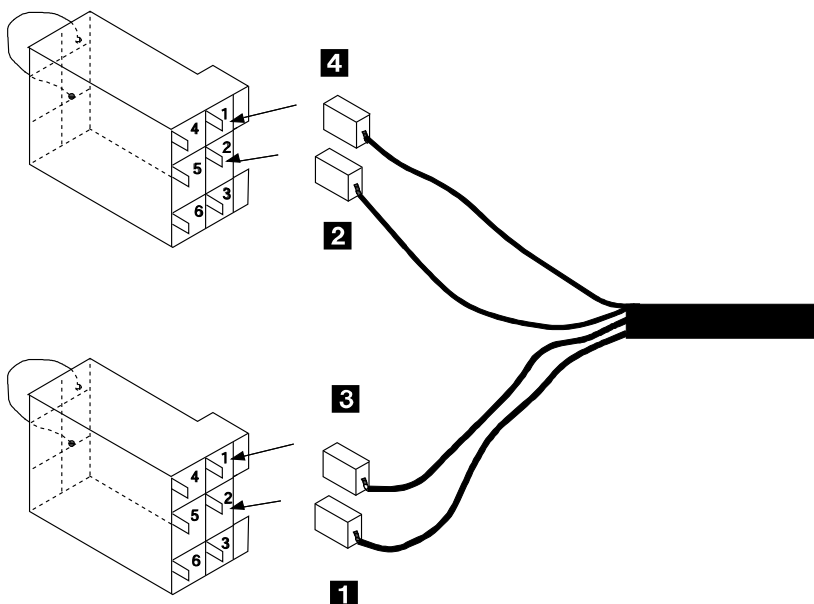

Figure 2-33. EPO Plugs
- Step 1. ____ Connect the UEPO cable leads **1** and **3**, and **2** and **4** to the EPO plugs (PN 8482303) pins 1 and 2 (see Figure 2-33).